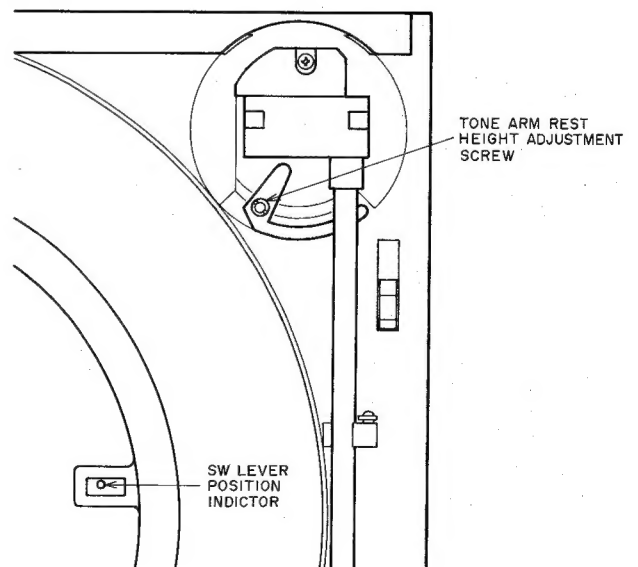

Fig. 5-13
- 9) When the tone arm is out of rest position, confirm that the white indicator shown in Fig. 5-13 is set to the outside position. If it is set towards the spindle (inside position), move the indicator to outside with your finger. Otherwise the tone arm will not go back to the rest position during cut operation even manually by hand.
5-3 TONE ARM REST HEIGHT ADJUSTMENT (Refer to Fig. 5-13)